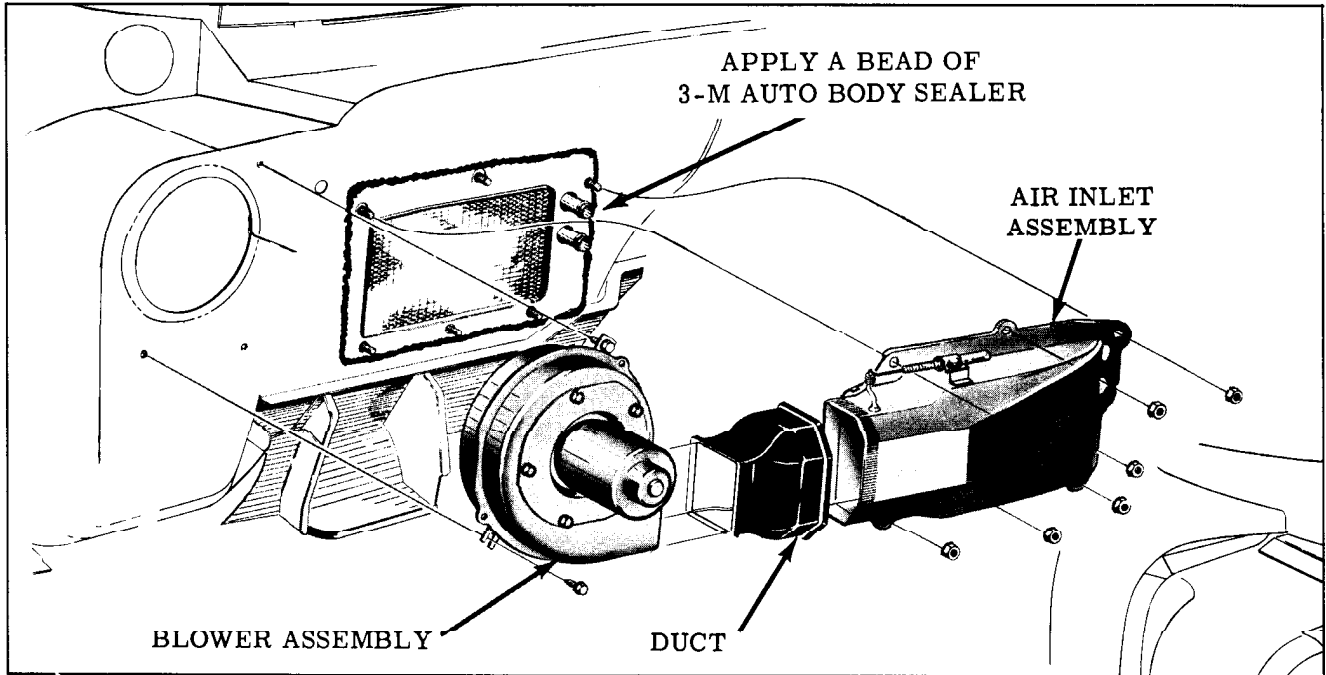

Fig. 16-35 Heater Inlet
- c. Remove the 6 heater inlet to cowl attaching nuts and washers Fig. 16-35 and remove heater core attaching screws, from inside passenger compartment.